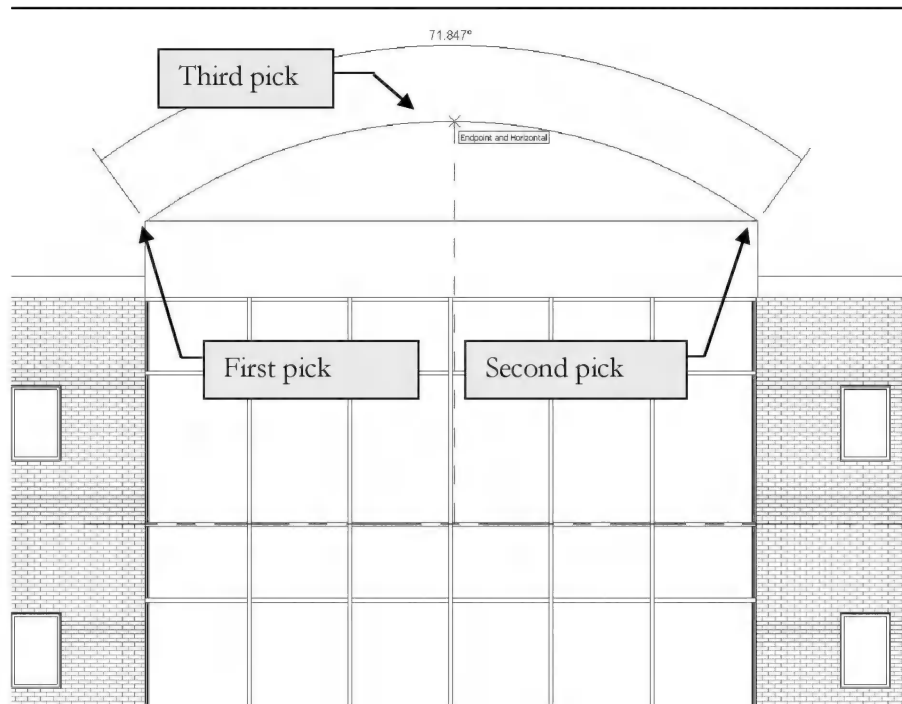

FIGURE 8-6.18 South Elevation; drawing arc to define roof
43. On the *Options Bar*, enter **-40'-0"** for the **Depth** (Figure 8-6.18).
45. Pick the three points shown in Figure 8-6.18 to draw the arc. The angle  $71.847^\circ$  is not critical; get as close as possible.
48. Pick the same three points shown in Figure 8-6.18.